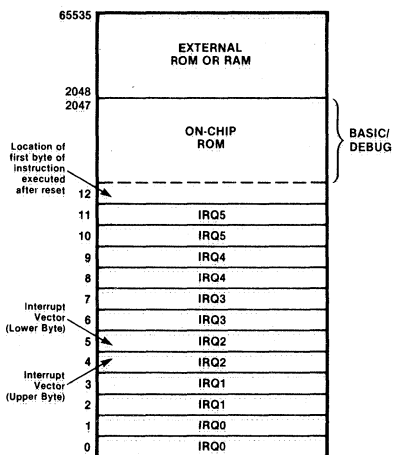

Figure 4. Programm Memory Map
**Program Memory.** The Z8671's 16-bit program counter can address 64K bytes of program memory space. Program memory consists of 2K bytes of internal ROM and up to 62K bytes of external ROM, EPROM, or RAM. The first 12 bytes of program memory are reserved for interrupt vectors (Figure 4). These locations contain six 16-bit vectors that correspond to the six available interrupts. The BASIC/Debug interpreter is located in the 2K bytes of internal ROM. The interpreter begins at address 12 and extends to 2047.